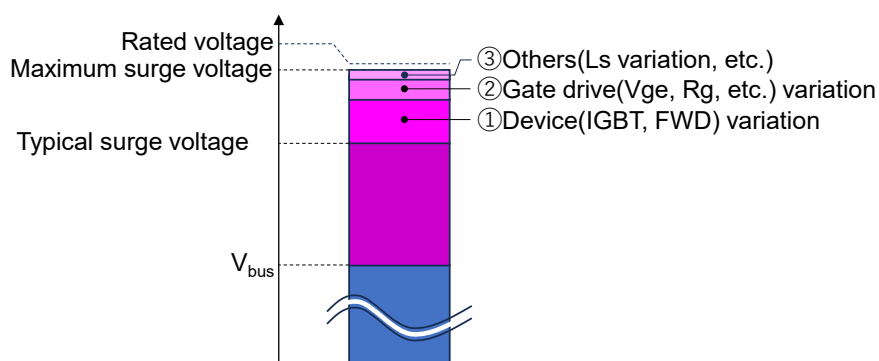

Figure 4-3 Variability Factors Causing Variation in Surge Voltage (image)
The above explains the surge voltage generated when the IGBT turns on and off. There are various factors causing variation in this surge voltage. Figure 4-3 shows the related schematics. The main factors contributing to an increase in surge voltage, in addition to the typical surge voltage, include: (1) variations in IGBT and FWD characteristics, (2) variability in the gate circuit, primarily due to variations in gate voltage and gate resistance, and (3) variations in the stray inductance (L_s) and other factors, although their impact is typically smaller compared to the first two factors. Even considering all these variability factors, it is imperative that the gate drive conditions prevent the surge voltage from exceeding the rated voltage. Furthermore, if simply adding all these variability factors is considered excessive, statistical processing may be a more reasonable solution. The key point is to ensure that, after considering all variabilities, the surge voltage does not exceed the rated voltage across the entire operating temperature range (typically -40°C to 175°C).